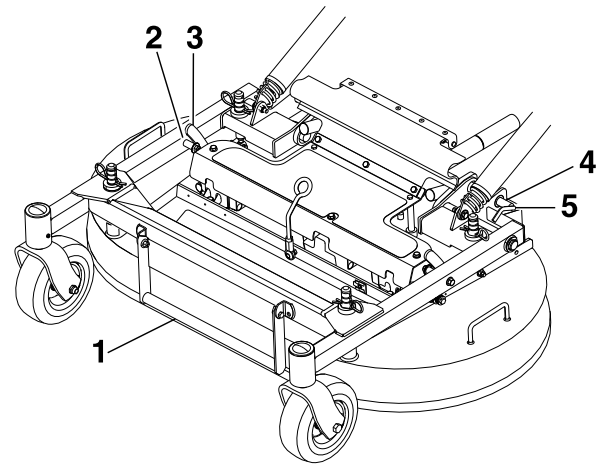

Figure 23
3. While keeping the front frame down, lift the deck on 1 side so that the deck-support latch engages the fixed pin in the front frame (Figure 23).